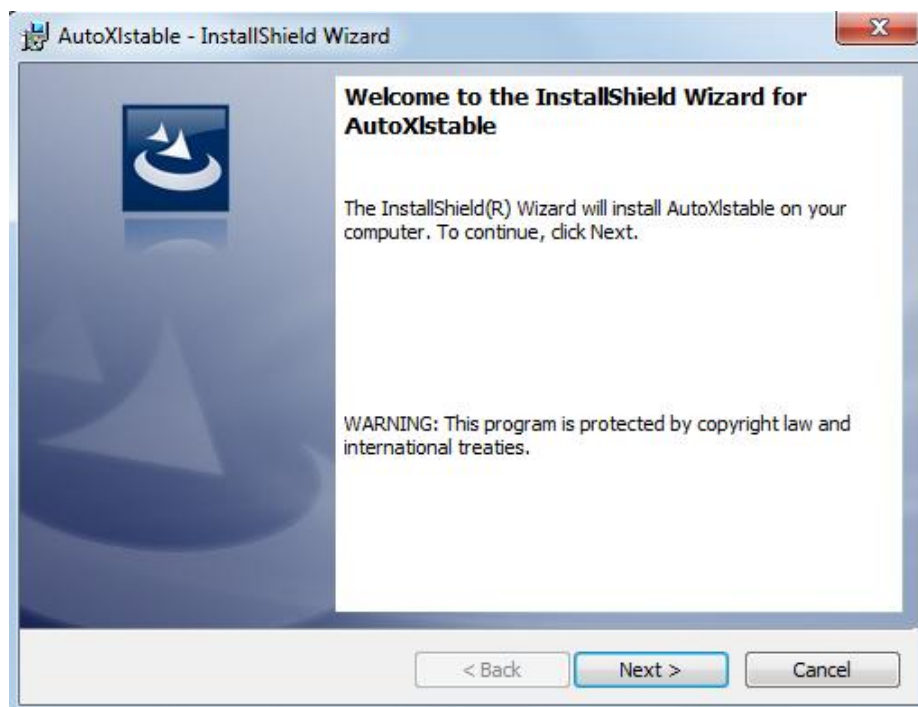

Figure 2-1
1.- Double-click the executable file downloaded  and the "AutoXIsTable _InstallShield Wizard" dialog box will pop up. Click "**Next**" to continue. See Figure 2-1.